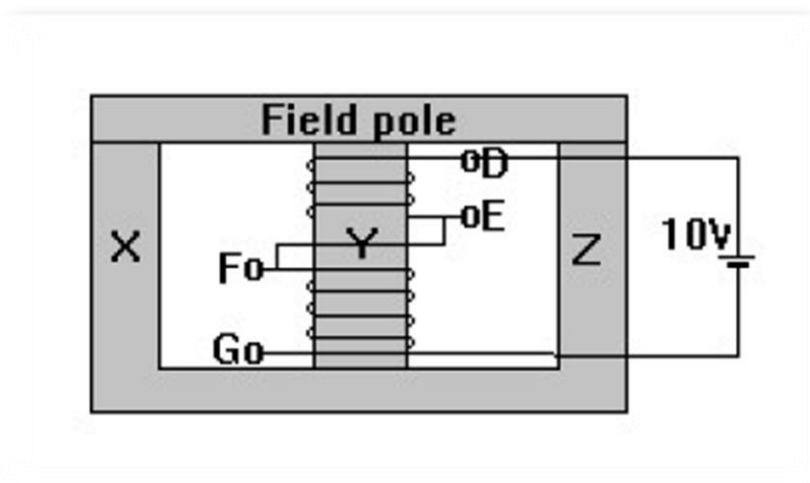

Figure 1.2
- 2) The connection shown in the **figure 1.2** below was connected, after that the terminal F and E connected together and D and G connected to the power supply, after that the power supply was set at 10 Volts and the direction of the flux was seen.